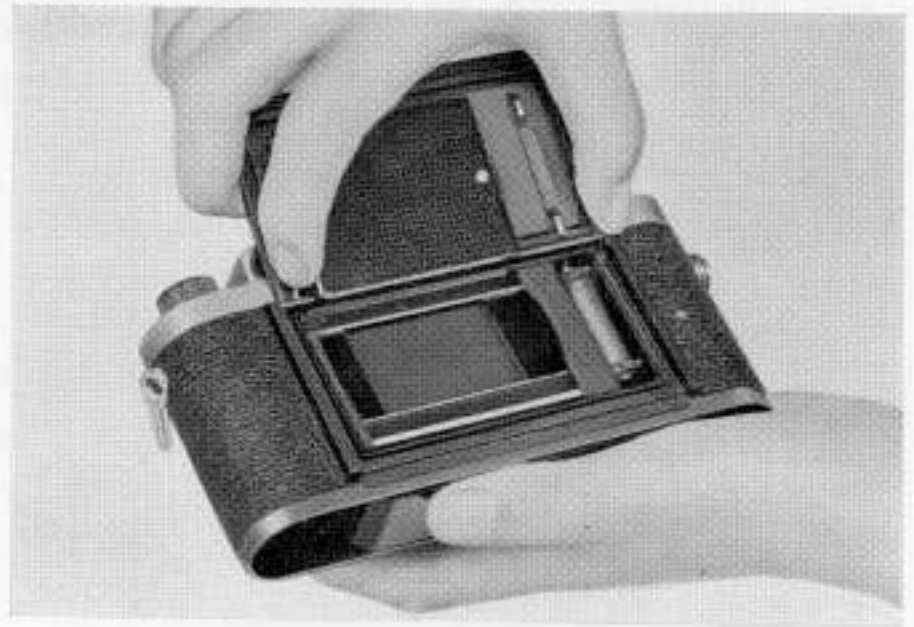

Fig. 8
- ( II ) To remove the rear-cover, catch the lugs on the shaft of the hinge (R) with the tip of your thumb and index finger, and push them toward the center (See Fig. 8). To mount the rearcover on the camera, reverse the foregoing procedure.